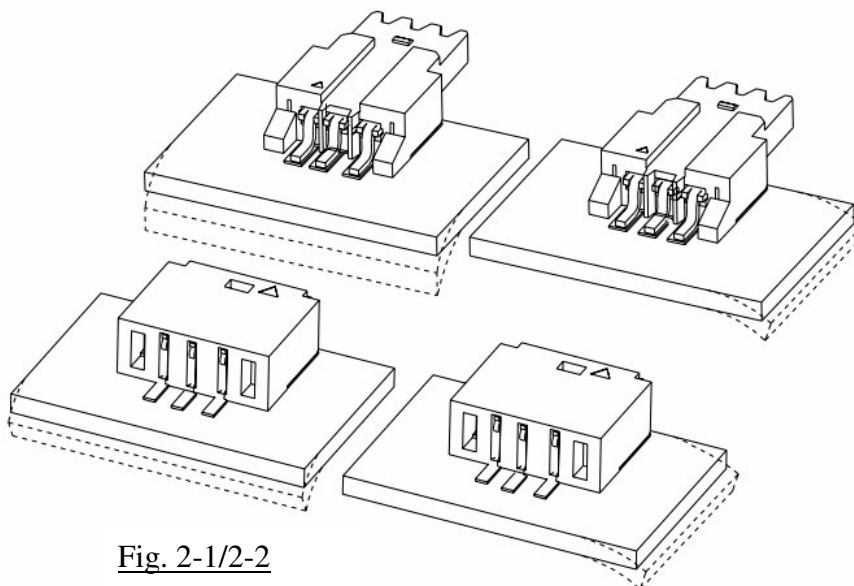

Fig. 2-1/2-2
- That might cause soldering crack by soldering failure and aging stress. ( fig. 2-1/2-2)